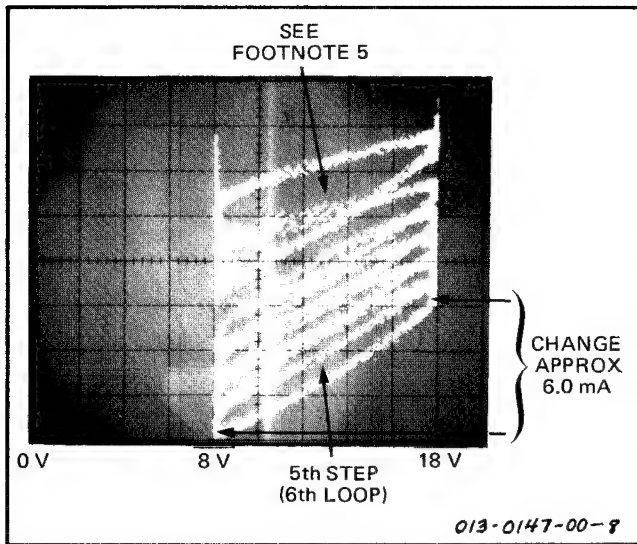

Fig. 2-14. Illustration of ripple rejection test, part g.
g. Adjust SWEEP AMPLITUDE for a horizontal display from 8 to 18 volts, as shown in Fig. 2-14. This is a sampled display and takes several seconds to store a complete display.